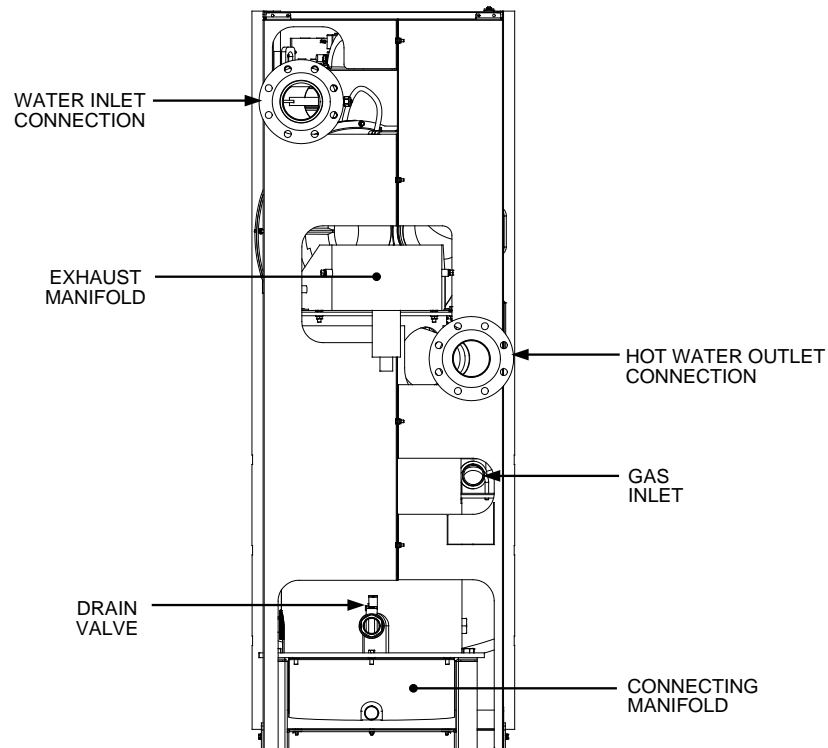

Figure 3. Benchmark 3.0LN - (Rear View)
3. At the rear of the unit (Figure 3), slowly open the drain valve and drain the boiler water from both heat exchangers.